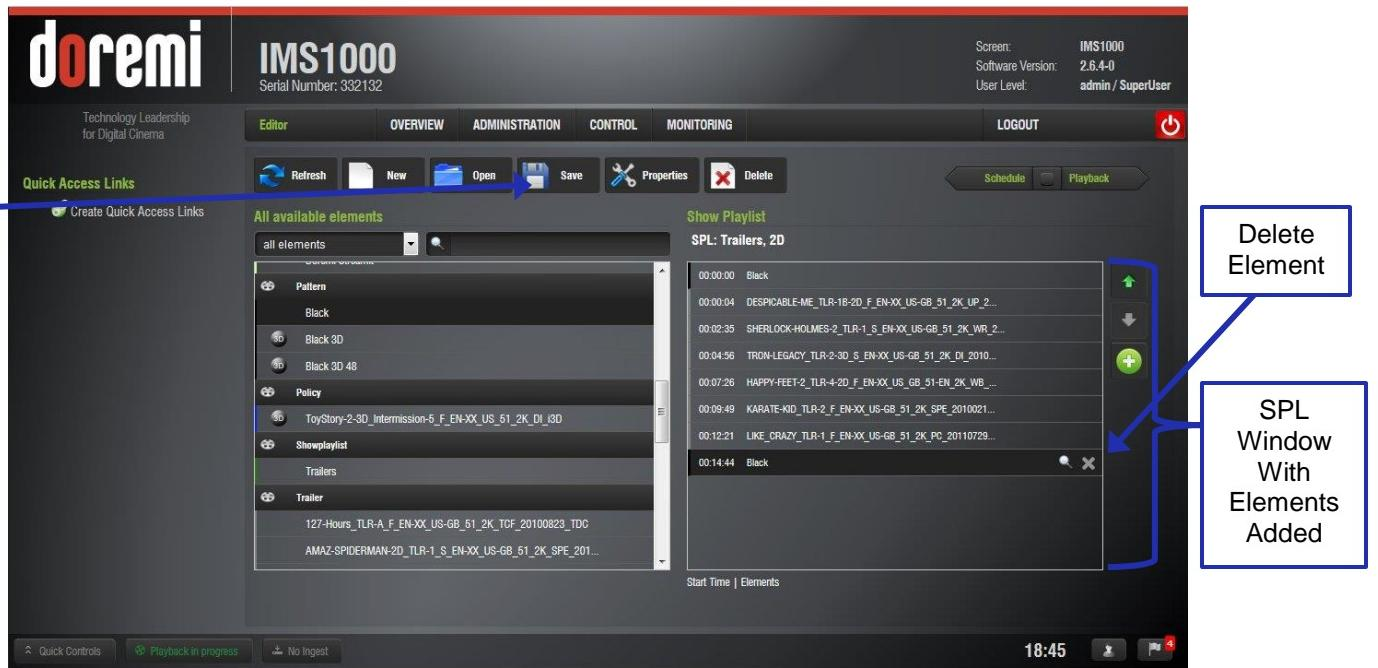

Figure 224: Elements Added
- The element(s) will appear in the right pane (Figure 224).
- To remove an element in a Show Playlist, select it in the Show Playlist window and click on the X button that appears on the right (Figure 224).
- Click on the Save button (Figure 224). The user will be prompted to a window asking them to input the correct password. SuperUser privileges are necessary to confirm the changes. If the user is already logged in with SuperUser privileges, the password confirmation window will not appear.
It is very important to click the Save button when done completing any task, especially a SPL (Figure 224). If the user does not click the Save button, the changes will not be reflected.